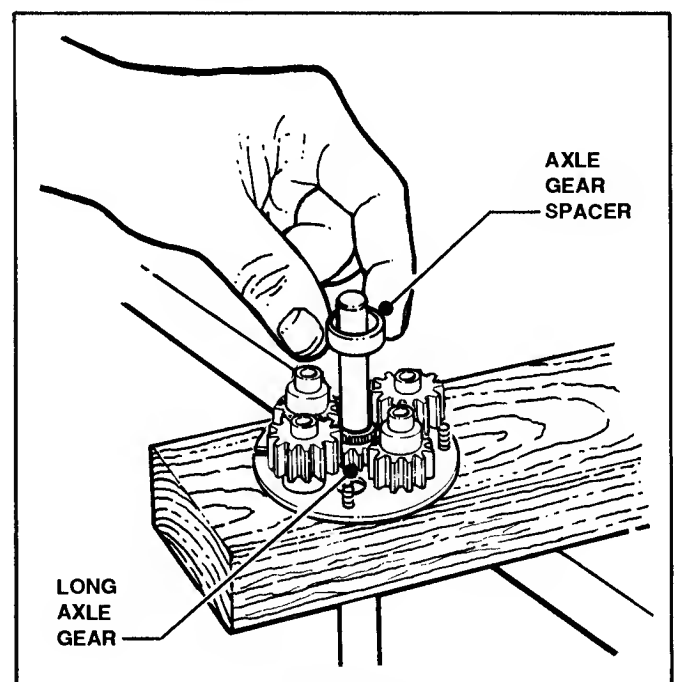

FIGURE 5.10
9. Install the axle gear spacer next to long axle gear around flared portion of axle. See Figure 5.10.